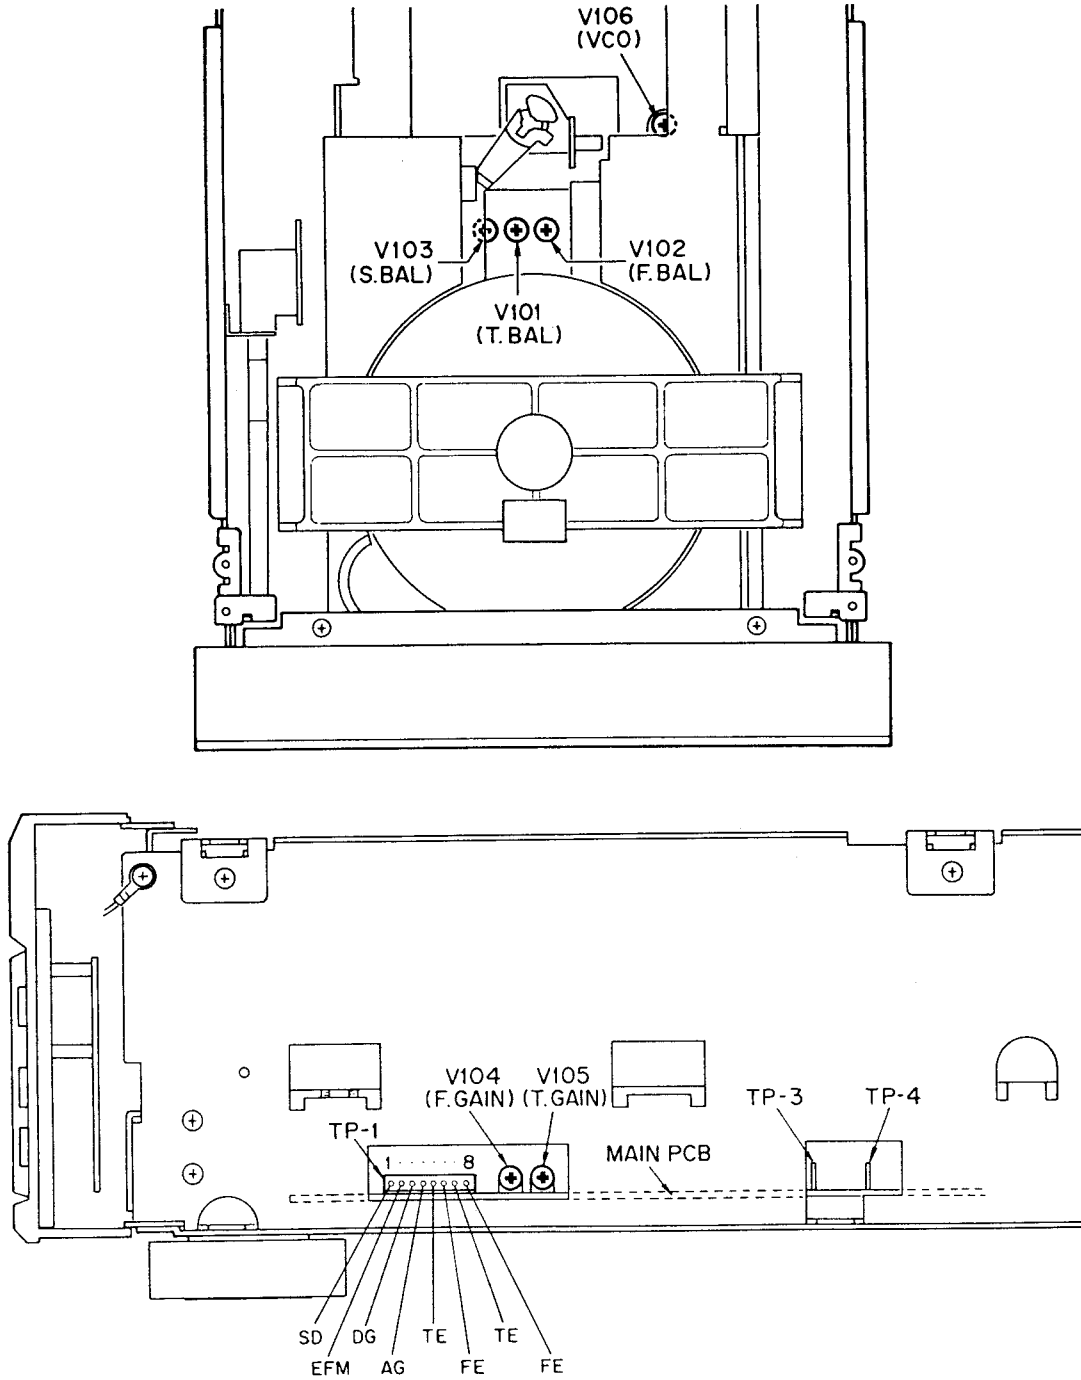

Fig.4-4 Adjustment location of P-10
- Adjustment points : MAIN PCB (Fig.4-4)
- 調整箇所 : MAIN PCB (Fig.4-4)